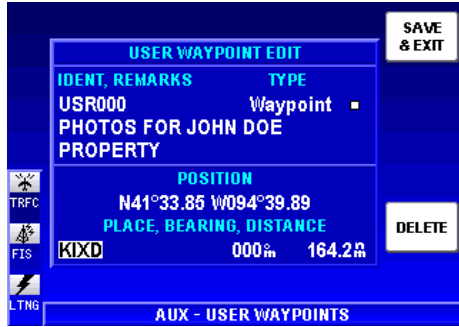

Figure 1-78
15. Press the **OK** Softkey and the selected identifier will be entered into the **PLACE** field as shown in Figure 1-78.